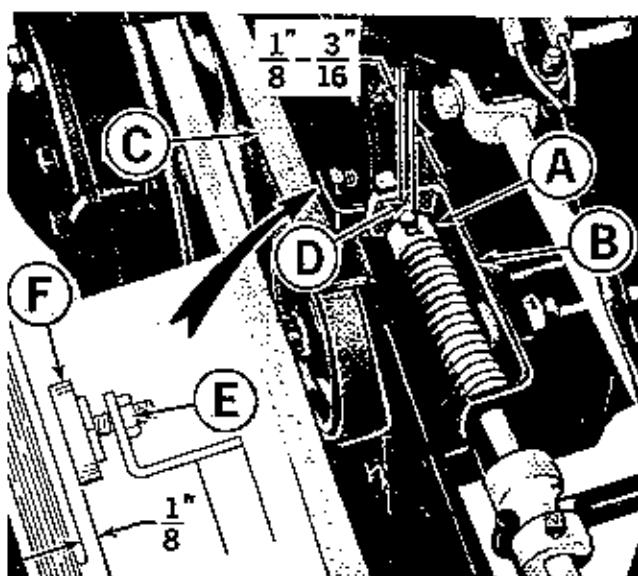

Figure 10. Shuttle drive forward adjustment.
5. See figure 10. Loosen nut (E) and turn brake pad (F) so there is $\frac{1}{8}$ " clearance between the brake pad and the drive pulley. Tighten nut (E) securely.
6. See figure 10. Use the following procedures to adjust the forward clutch.
- b. See figure 10. Loosen the set screw in collar (A). Push the rod guide assembly (B) forward until slack is removed from the forward drive belt (C).
- e. See figure 10. The distance (D) between the rod guide and collar (A) should be $\frac{1}{8}$ " to $\frac{3}{16}$ ". If it is not, repeat steps a. through d. until distance (D) is $\frac{1}{8}$ " to $\frac{3}{16}$ ". Place more tension on belt (C) to increase distance (D) or less tension to decrease the distance.
(figure 10, item C).